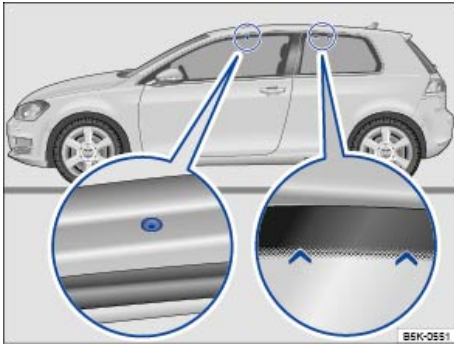
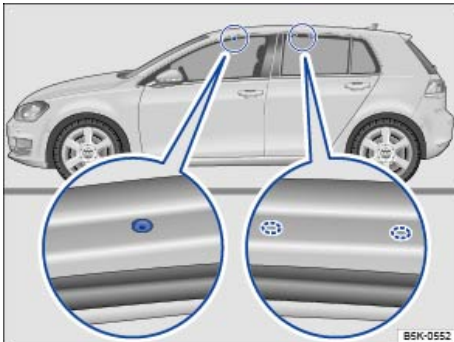

Fig. 98 Mounting points for the base carrier and roof rack on 2-door vehicles.
Fig. 99 Mounting points for the base carrier and roof rack on 4-door vehicles.
The front mounting holes are on the underside of the roof frame. They are sealed with plastic screws that must be removed before installation ⇒ fig. 98 (magnified view on left). The holes are only visible when the door is open. The rear markings for the base carrier are above the rear side windows (magnified view on right).
The front mounting holes are on the underside of the roof frame. They are sealed with plastic screws that must be removed before installation ⇒ fig. 99 (magnified view on left). The rear markings for the base carrier are on the underside of the roof frame (magnified view on right).
- Secure the roof rack base carrier only at the attachment points shown in the illustration ⇒ fig. 98 or ⇒ fig. 99.